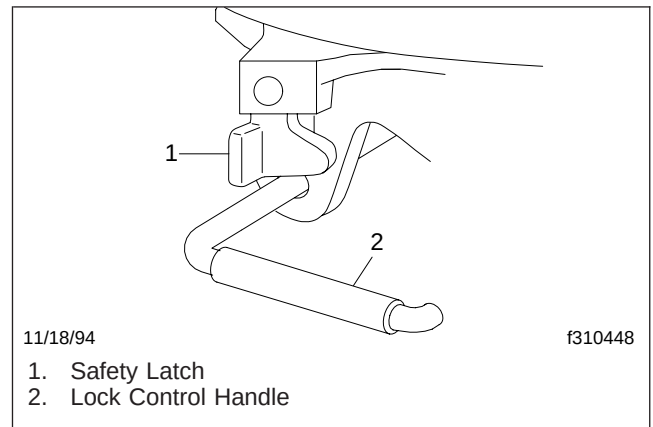

Fig. 2, Left-Side View
- 1.2 Make sure the safety latch swings freely over the lock control handle. See Fig. 2. This places the fifth wheel in the coupled and locked position.